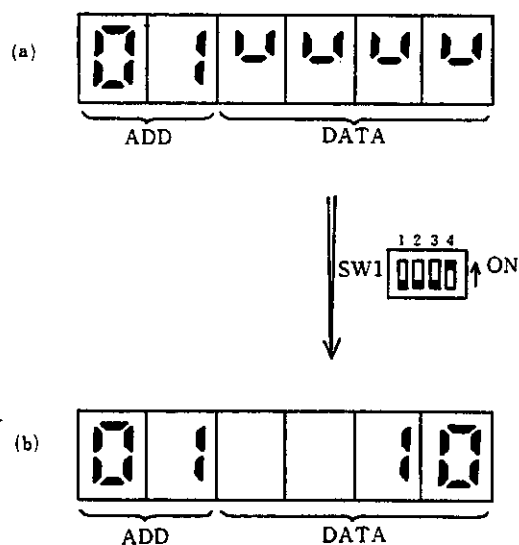

Fig. 5
(Note) When the parameter data is not within the setting range, the LED display will be as shown in Fig. 5 (a). Reset after checking the parameter data value to be set.
- * To confirm the presently set parameter, turn on dip switch (SW1) 4, and it will display. (Fig. 5(a) - (b).)